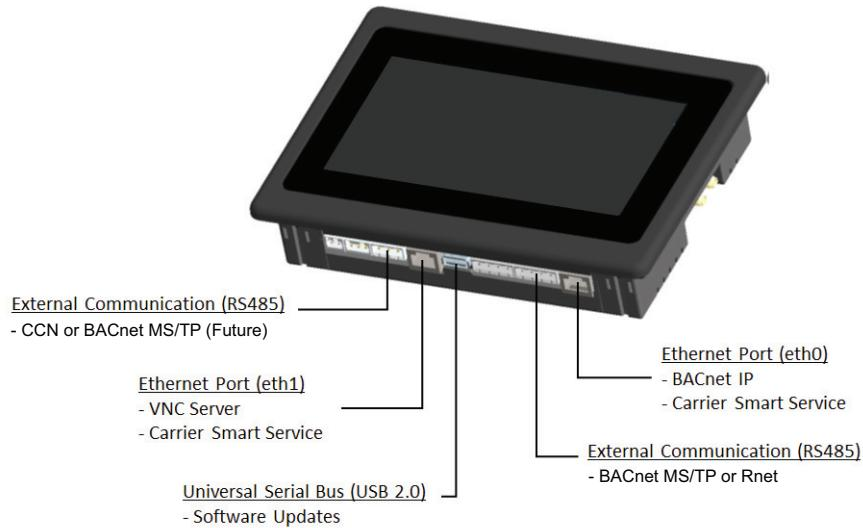

Fig. 63 – Carrier SmartVu™ Touchscreen Display Interface and Connections
50V units are standard with BACnet Internet Protocol (IP) communication using Ethernet. The cabling for this is standard CAT 5 (minimum) cable with RJ45 connector. See Fig. 63 for Ethernet port locations. See Table 16 for ethernet addresses.
The SmartVu touchscreen display is the primary method of interfacing with the controls for set up and equipment start-up. The touchscreen is a capacitive 7 in. LCD that can be activated with a finger, touch compatible gloves, or stylus. Refer to Fig. 63 for display layout and port locations.
The SmartVu controls can be accessed using a hardwired ethernet connection at ethernet port 0 (on the bottom right side of the touchscreen display) and a VNC Viewer, such as RealVNC. Refer to Fig. 63 (SmartVu touchscreen display) for ethernet port 0 port locations. See Table 16 for default IP addresses ethernet port 0.